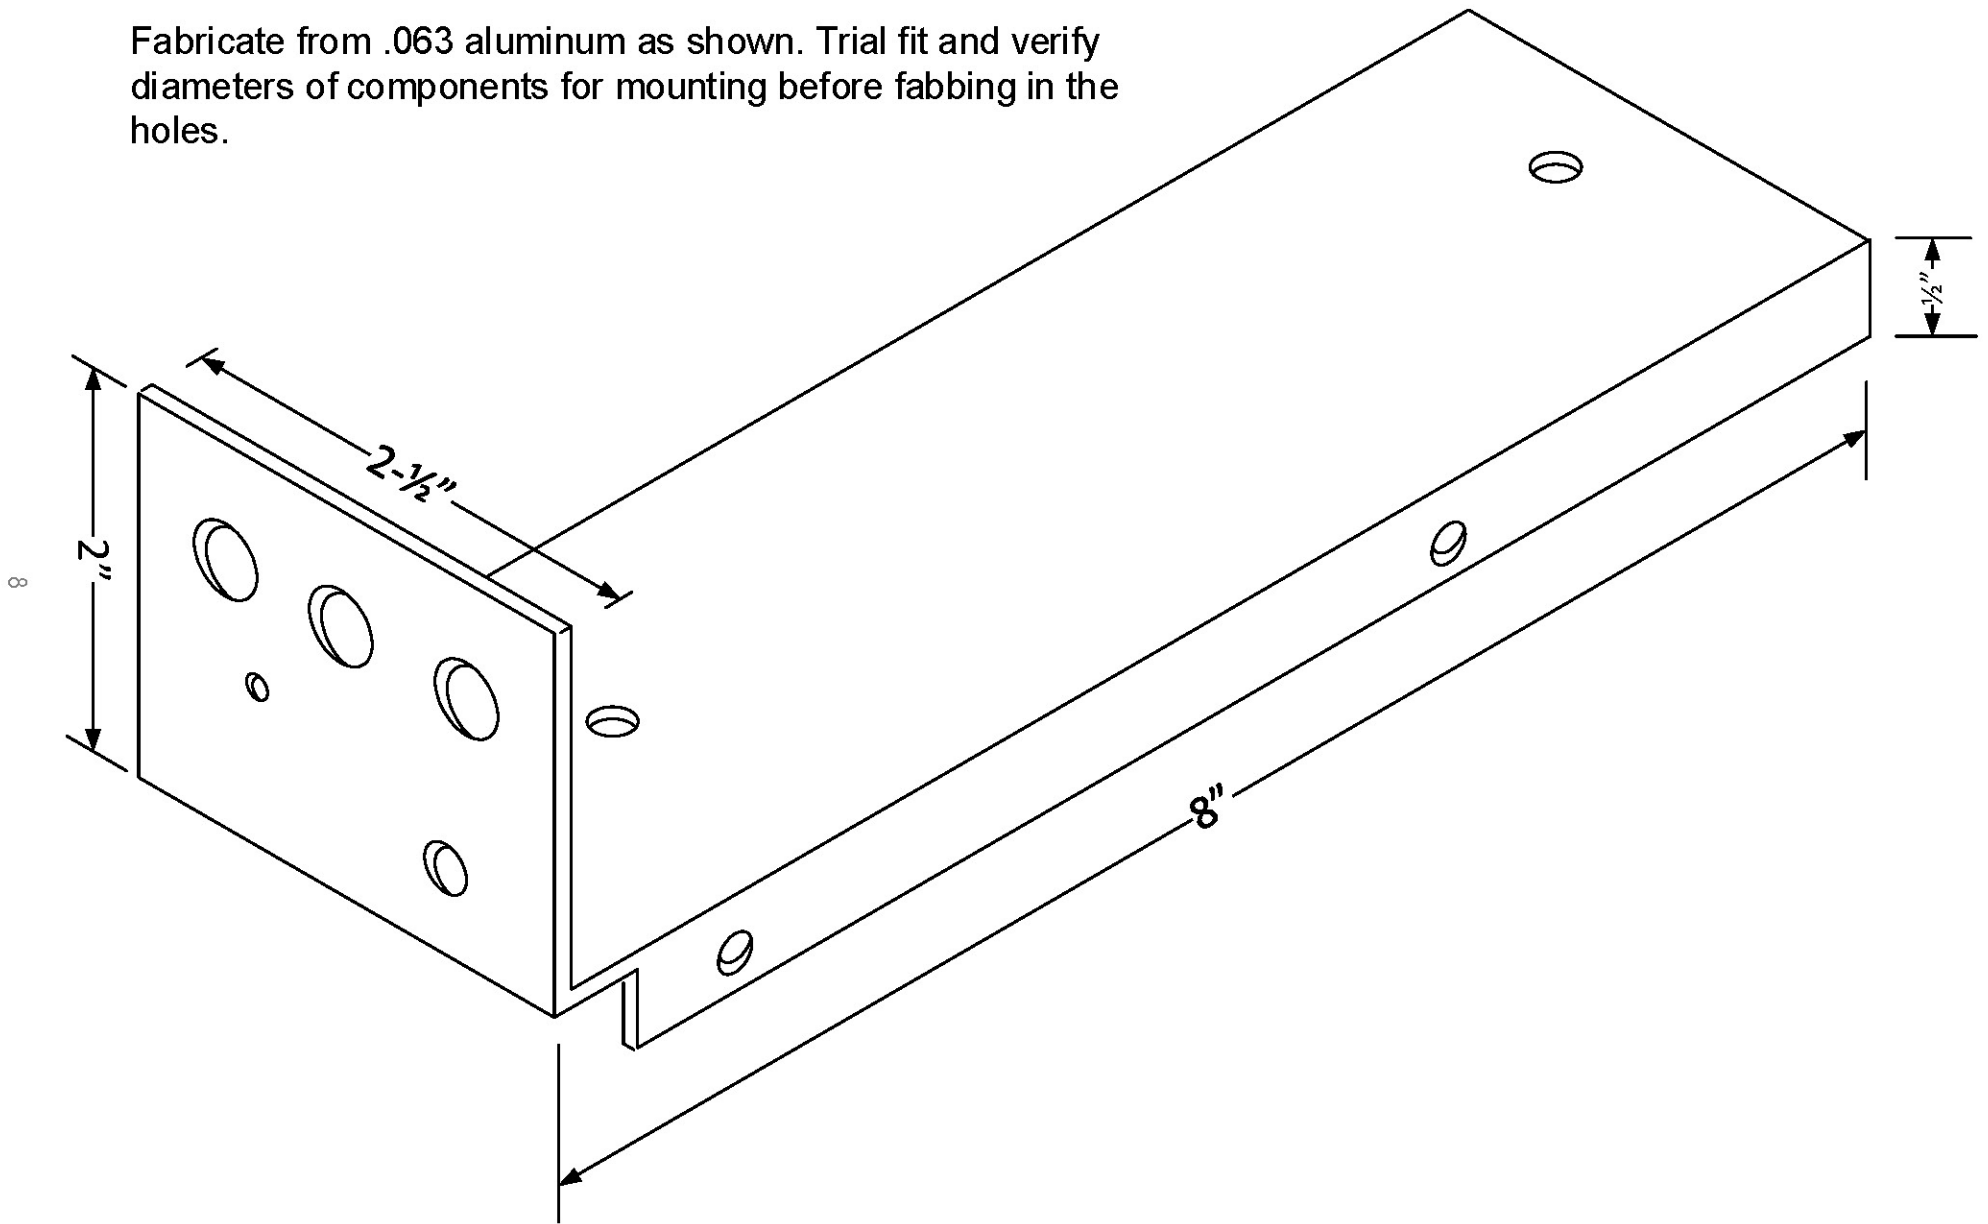
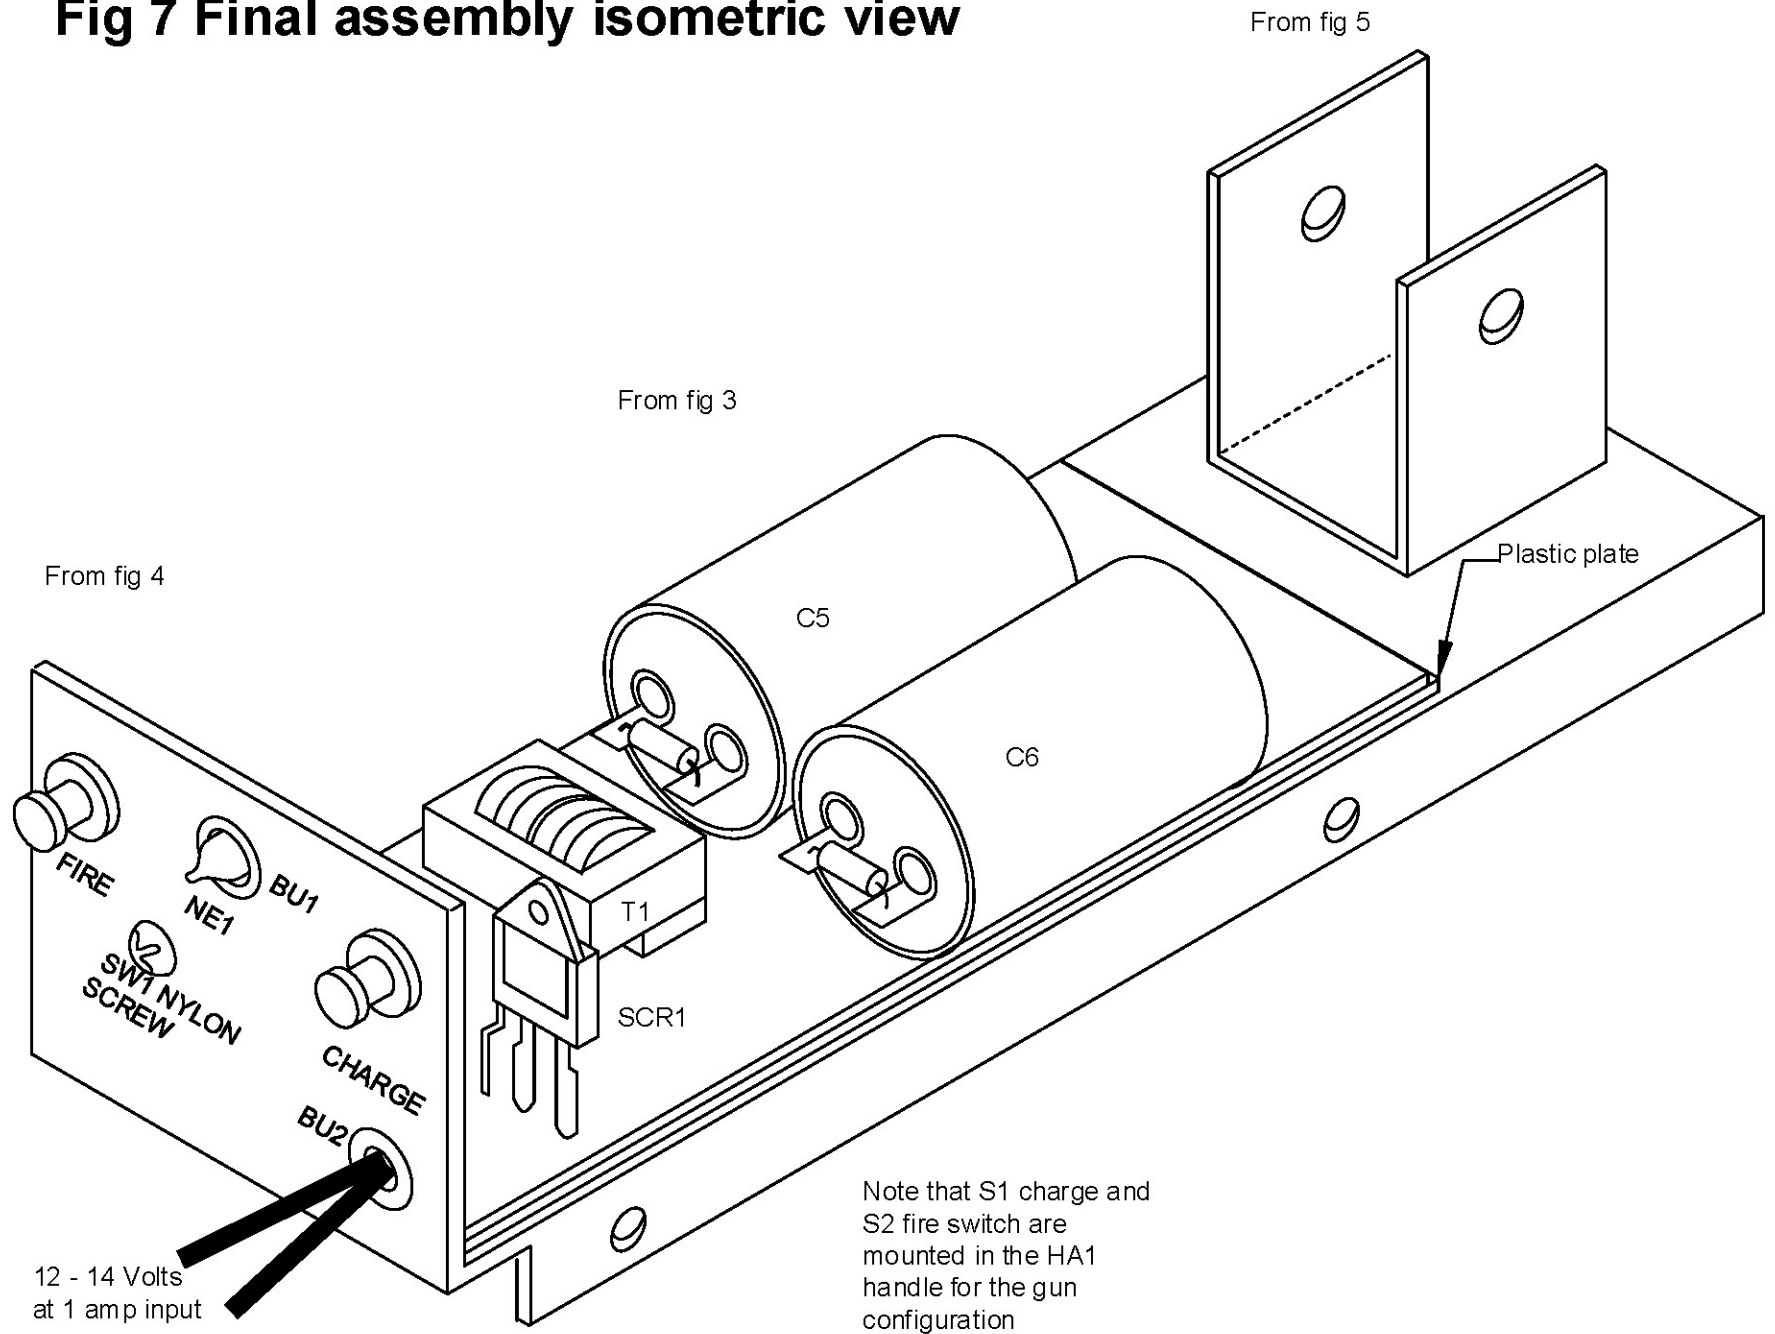

**Fig 4 Assembly board showing external wiring**
## Fig 6 Bracket and Flyway Fabrication
6. Attach the following leads, as shown in Figure 4 (the lengths noted are for best fit, and do not have an effect on EM interference):
2. Fabricate a BK1 bracket, a MAND1 mandrel, and a FLY1 flyway, as shown in Figure 6.
4. Wind the L1 accelerator coil, as shown in Figure 6. Sleeve in 1/4-inch section of MAND1 mandrel into the FLY1. Drill small holes for the start and finish of the winding into the side of the bobbin as shown. The measured coil inductance should read 90 to 100 microhenries without the projectile, dropping down to 50 to 60 with the projectile in place. Connect in the coil leads as shown in Fig 4.
5. The final assembly is shown in Figure 7. Note the proper mounting of Q1 using a mica washer, shown in Figure 4.
The leads from S1,2 and power are now routed thru a single hole about 3/8" diameter. This hole must be drilled in the aluminum chassis, plastic insulating plate and the assembly board. Holes must be aligned for proper passage of these leads that are now connected to the assembly board as shown on fig 4.